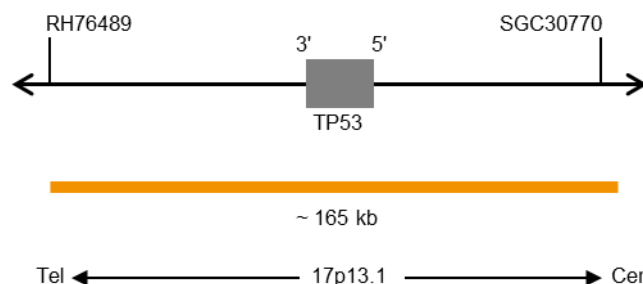

Fig. 1: SPEC TP53 Probe map (not to scale)
- ZyOrange (excitation 547 nm/emission 572 nm) labeled polynucleotides (~4.5 ng/ μ l), which target sequences mapping in 17p13.1* (chr17:7,495,749-7,663,022) harboring the TP53 gene region (see Fig. 1).